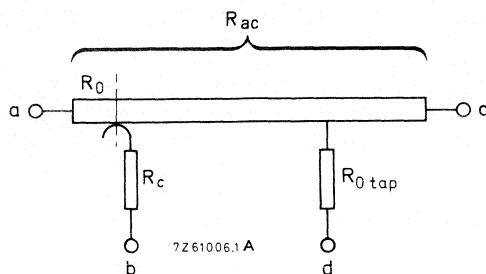

Fig. 3 Diagram of potentiometer; spindle in fully counter-clockwise position.
**Terminal resistance** — Minimum resistance which can be obtained between the termination connected to the moving contact b and any other termination. (Fig. 3).
**Residual resistance** — The resistance between either end termination a or c and the termination connected to the moving contact b when the moving contact is set against the relevant end stop. (Fig. 3).
**Maximum attenuation** — Maximum value of the attenuation when the potentiometer is used as an attenuator (see Fig. 3).